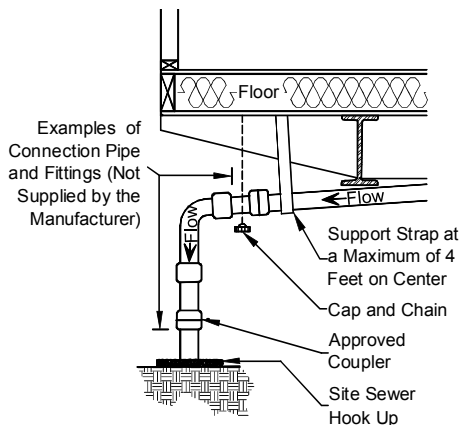

Figure 64. DWV connection to sewer/septic
4. **Connect to outlet.** Connect the main drain line to the site sewer/septic hook-up, using an approved elastomeric coupling (**Figure 64**).
5. **Install supports.** Install permanent drain line supports at a distance of four feet o.c. or less (see **Figure 62**, **Figure 64**, **Figure 65** and **Figure 66**).